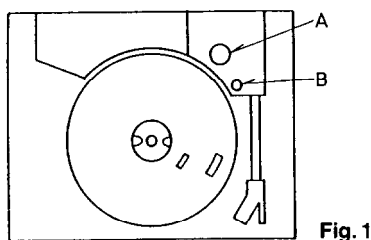
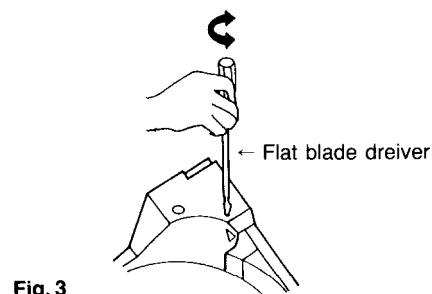
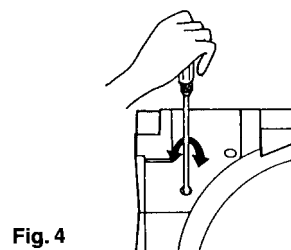

Fig. 1
Fig. 3
Fig. 4
Refer to Fig. 1 and Fig. 3
4. Shift the arm to a position over the record (tone arm in the free condition), and make the adjustment as shown in Fig. 3 so that the tip of the needle is 5mm to 11mm clear of the rubber sheet.
### 3-2. Lead in adjustment (A section) Fig. 1 and Fig. 4
2. As shown in Fig. 4, make the adjustment to the following counts: